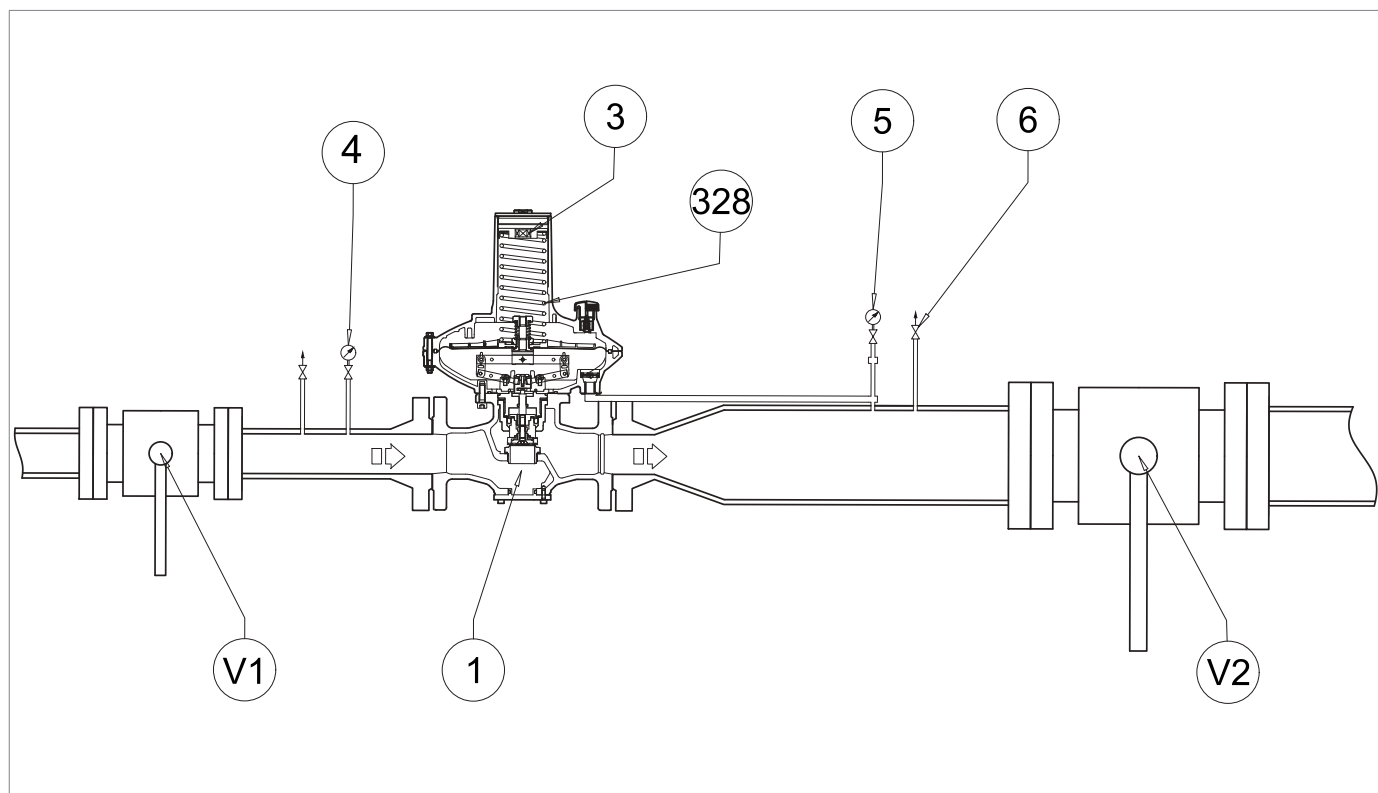
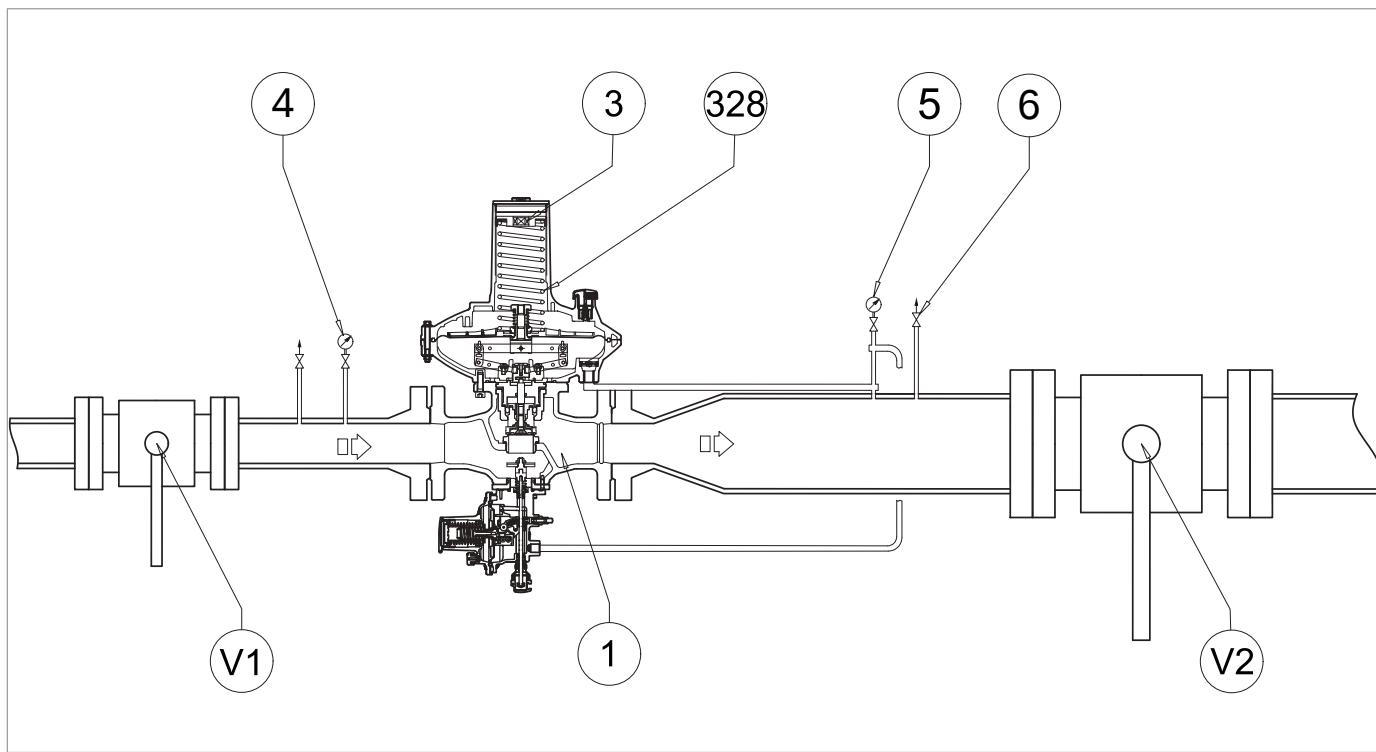
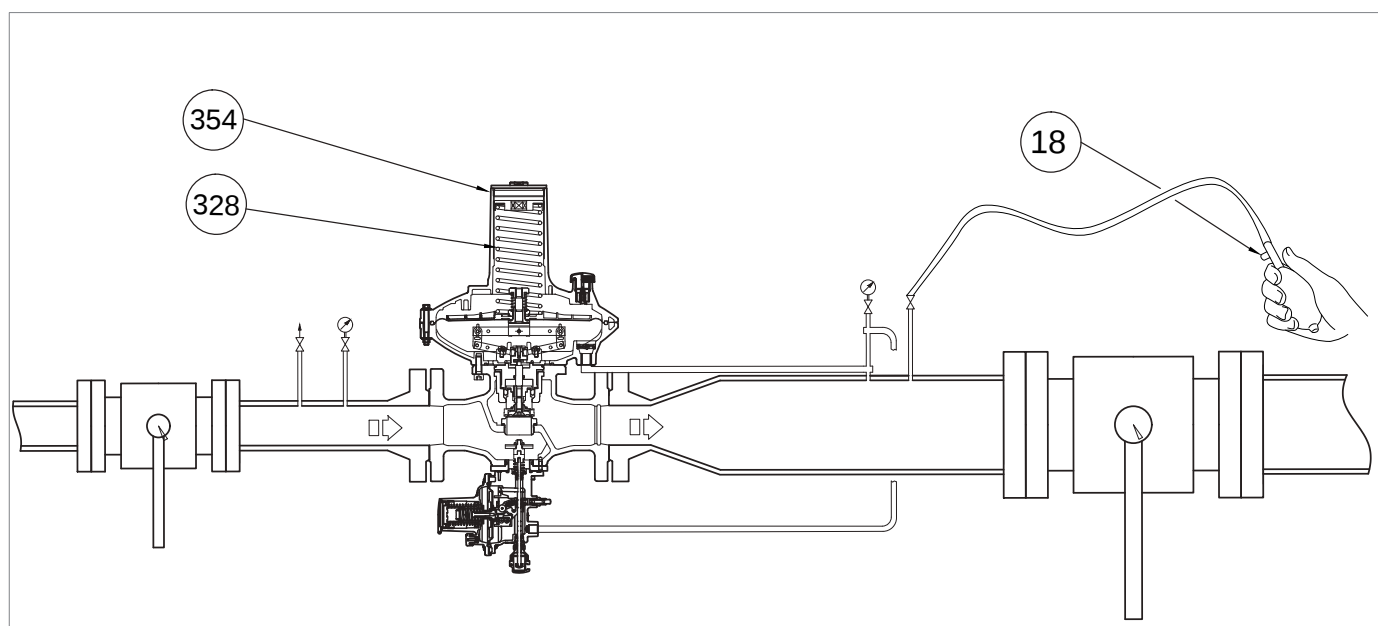

Fig. 8.16. Commissioning the DIVAL 600 regulator
Fig. 8.19. Commissioning of the DIVAL 600 regulator with LA slam-shut valve
Fig. 8.21. Pressurising with external source for incorporated LA slam-shut valve
For the following procedure, please refer to Figure 8.19 in par. "8.7.1 - Internal tightness check of LA slam-shut valve":
1	Increase the downstream pressure to the tripping value of the slam-shut valve, connecting an external pressure source to the bleed cock (fig. 8.16, ref. 6) placed on the downstream pipe, making sure to open an additional bleed cock (fig. 8.21, ref. 18).  NOTICE! Check the pressure referring to the downstream pressure gauge (fig. 8.16, ref. 5). If the slam-shut valve: • trips before the expected pressure value: screw in (clockwise) the adjustment ring nut (13) so as to further compress the spring (11); • does not trip at the expected pressure value: unscrew (anti-clockwise) the adjustment ring nut (13) so as to relieve the spring (11).
3	Close the additional bleed cock (fig. 8.21, ref. 18).
6	Disconnect the external pressure source from the bleed cock (fig. 8.16, ref. 6).
3	If necessary, remove the closing cap (fig. 8.21, ref. 354) together with the adjustment ring nut and remove the regulation spring (fig. 8.21, ref. 328).  NOTICE! Check the tripping pressure value of the slam-shut valve indicated on the downstream pressure gauge (fig. 8.19, ref. 5).
5	After having checked that the slam-shut valve trips at the preset value, proceed as follows: - Close the air vent valve (fig. 8.16, ref. 6) - Position the regulation spring (fig. 8.21, ref. 328), the closing cap (fig. 8.21, ref. 354), and adjustment ring nut (fig. 8.16, ref. 3) - Slowly open the upstream shut-off valve (V1) until the downstream pressure value (Pd) reaches the calibration value of the regulator, referring to the downstream pressure gauge (fig. 8.16, ref. 5) - Close the upstream shut-off valve (V1) - Slowly and partially open the air vent valve (fig. 8.16, ref. 6) to decrease the downstream pressure referring to the downstream pressure gauge (fig. 8.16, ref. 5) until it reaches the minimum pressure tripping value - Check the minimum pressure spring for proper calibration by repeating steps 2-3-4 at least three times - Calibrate the main regulator referring to par. "8.5 - Regulator commissioning procedure"